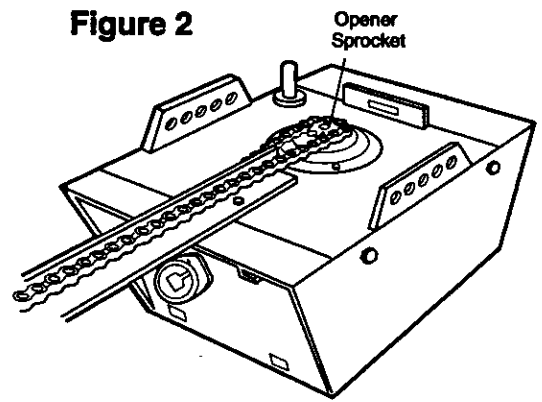
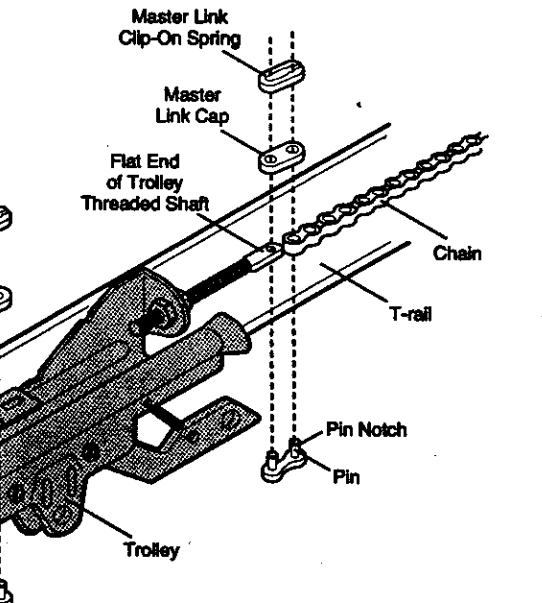

Figure 2
Figure 3
- Proceed back around the opener sprocket, Figure 2. Be sure sprocket teeth engage the chain. Continue forward to the trolley threaded shaft, Figure 3.